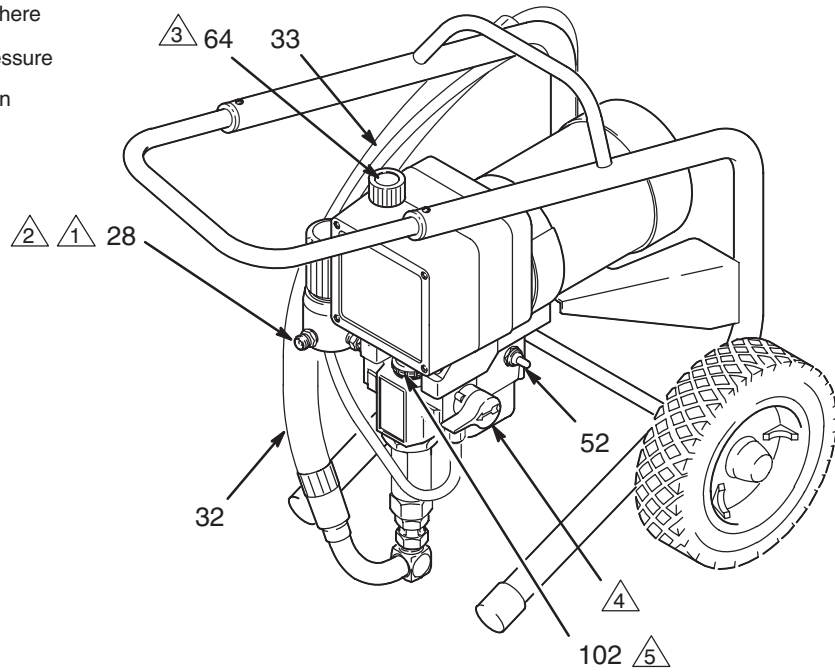

Fig. 4
3. Never install any shutoff device between the filter and the hose. See Fig. 4.
2. Attach the fluid filter (85) to the sprayer.
3. **Connect the hose and gun** and screw it onto the outlet nipple (28). Don't use thread sealant, and don't install the spray tip yet! See Fig 4.
4. **Fill the wet-cup (102).** Pry off the wet-cup seal. Fill the cup 1/3 full with Graco Throat Seal Liquid (TSL), supplied. Install the wet-cup seal.
NOTE: Refer to Fig. 4 and the other figures referenced in the text as you start the sprayer.